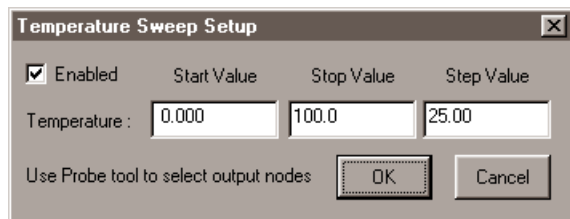
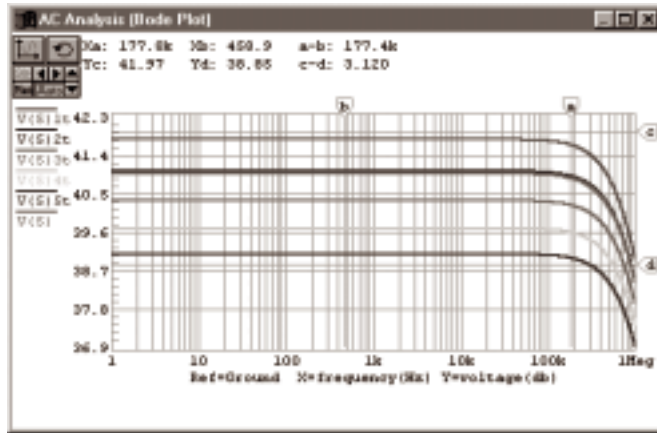

Figure 6.25. Use this dialog box to set up a Temperature Sweep Analysis.
Figure 6.26. Temperature Sweep Analysis waveforms.
- 2 Click **Temperature Sweep** to display the dialog box shown in Figure 6.25.
The waveform in Figure 6.26 was generated by simulating the ANALOG.CKT circuit using the values shown in Figure 6.25. Notice that the analysis sweeps the temperature of the circuit in specified steps, between the start and stop temperature values. The waveforms in this example represent the magnitude of the circuit output voltage (in db) for each temperature step. See *Using the Analysis Windows* earlier in this chapter for more information about manipulating the waveforms.